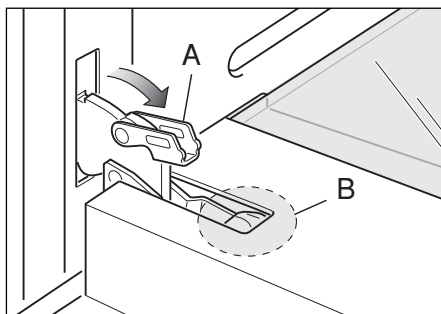

Fig. 25b
- Open the lever "A" completely on the left and right hinges (Fig. 25b).